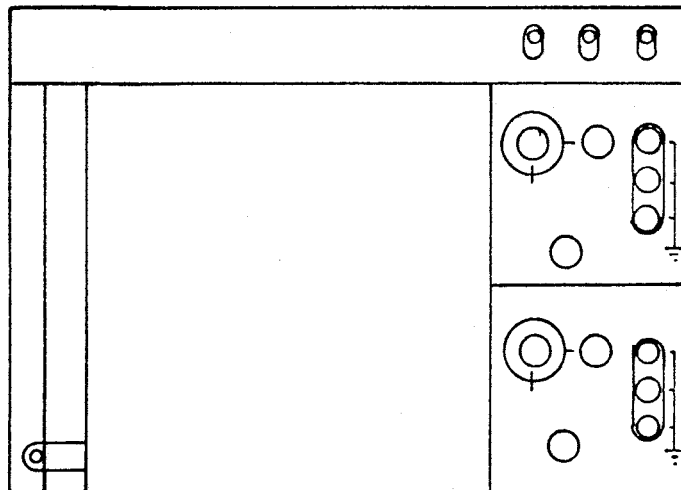

Figure 9
3. Using the FUNCTION SELECTOR BUTTON, ⑬, select $X=0, Y=0$. The pen of the plotter, if all connections have been properly made, should be in the lower left hand corner of the paper or field of interest as in Figure 9 below.